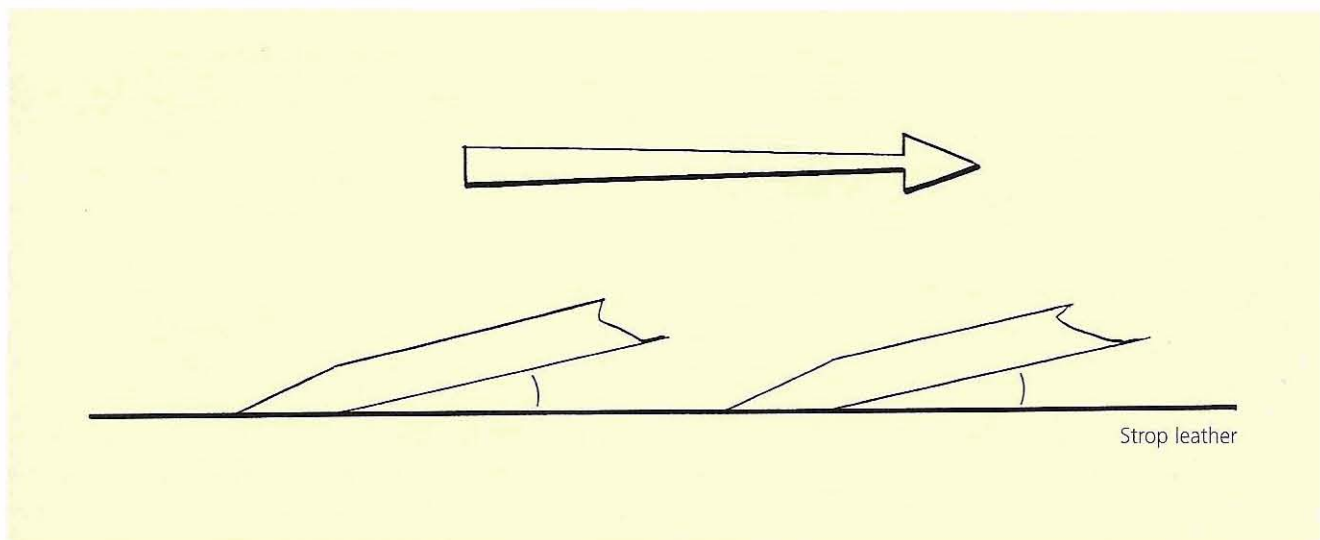

Fig 12.20 When stropping, maintain the same angle and always drag the edge to avoid cutting the leather
- ① Line up the benchstrop end-on, supporting the near edge with the fingers (of the left hand, for a right-handed person).
- ② The strop is *always* used with the blade being drawn *towards* the user, the edge dragging so as not to cut the leather.
- ③ Hold the chisel around the shank with the right hand. The first two fingers extend along the metal, but keep them back from the cutting edge roughly the length of a finger joint.
- ④ Place the bevel flat on the furthest part of the leather and, with firm pressure, draw the tool along the strop towards you (Fig 12.20). Try to maintain the angle and work on the *bevel* – not the edge, as that will take care of itself.
- ⑤ At the end of this stroke *lift the chisel clear* and place the bevel flat on the strop at the far end again. Draw the blade towards you for a second stroke.
- ⑥ This action is repeated a few times on one side of the chisel, then the blade is turned over for an equal number of strokes on the other side. You can strop the tool quite vigorously, in which case it makes a slapping sound on the strop as it is placed for each stroke.